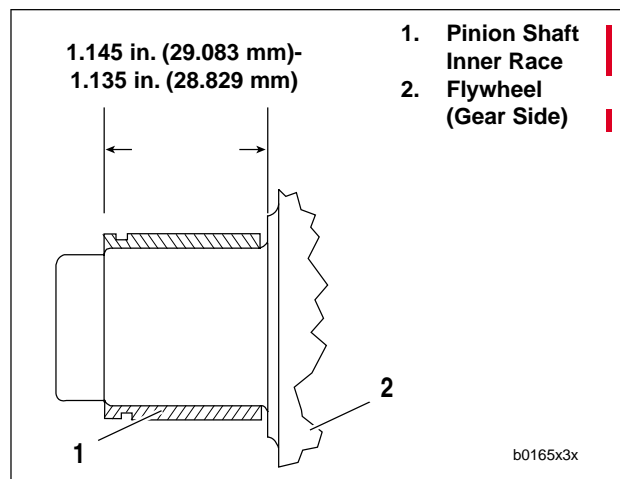

Figure 3-85. Inner Race Location
See Figure 3-85. Pinion bearings are identified as shown.
8. See Figure 3-85. Press **new** inner race on pinion shaft as shown. The **new** inner race must be ground by a competent machinist to OD dimension range for the finished lapped ID of the outer race. See Table 3-12. The finished